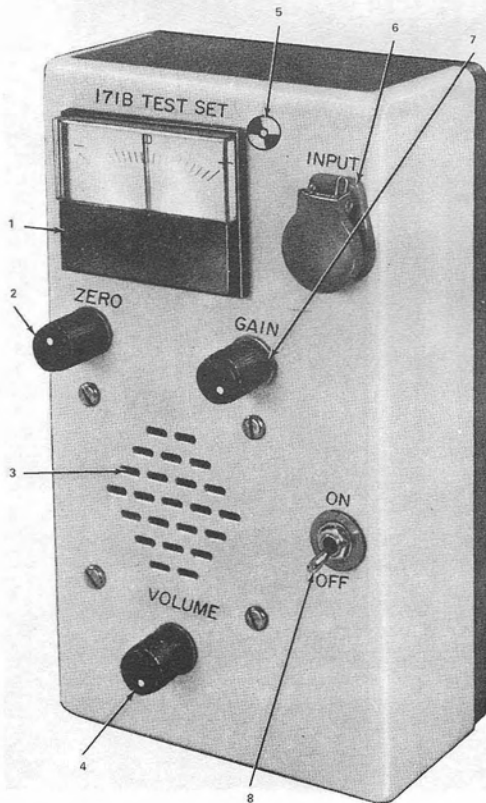

Fig. 5—Receiver
- (c) Add new figures for Fig. 5 and 6.
3.07 Figure 5 illustrates the 171B test set. It is designed to be hand held in the horizontal plane.